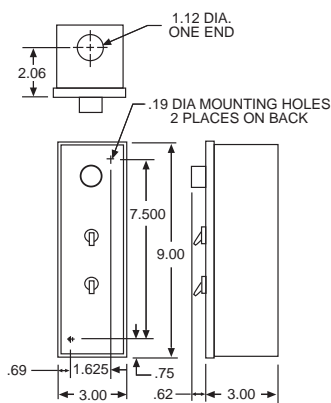
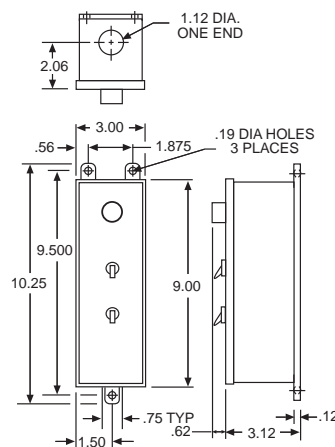

FIGURE 3. DCXplus NEMA 1 Dimensions
FIGURE 4. DCXplus NEMA 12 Dimensions
- Enclosed Models** — These units are furnished in a compact, die cast aluminum, nonventilated enclosure. NEMA 1 and NEMA 12 models are offered. See Figure 3 for NEMA 1 and Figure 4 for NEMA 12 model dimensions. The complete control assembly is mounted on the front panel which can be removed from the enclosure by removing screws. The unenclosed panel assembly can be mounted through a cut-out in the user's enclosure, see Figure 5 for cut-out dimensions.